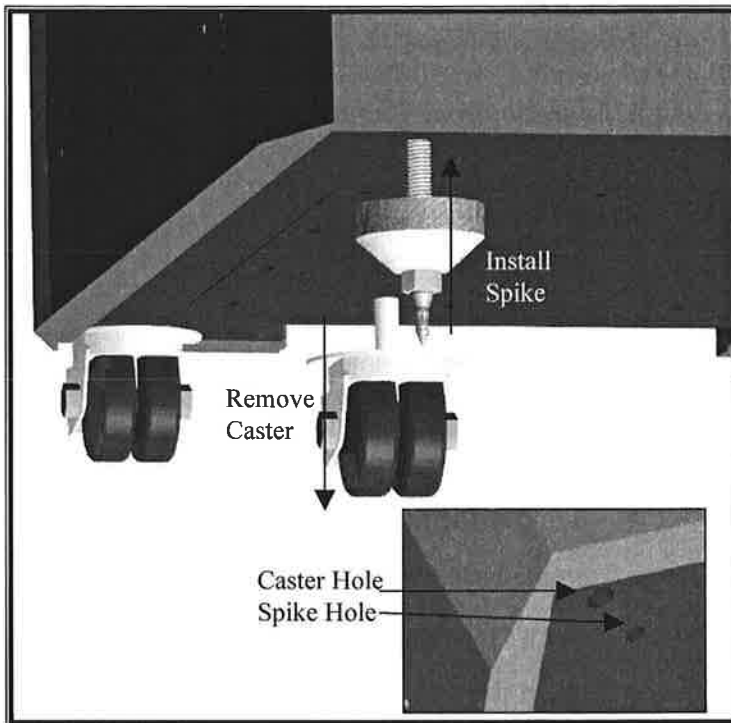

FIGURE 26 INSTALLING THE SPIKES
- Use the open-ended wrench to loosen the casters and insert the finished spike assembly. Screw in the spike assembly. Hand tighten only! Note: Be very careful NOT TO CROSS THREAD the spikes. The base of the X-1/Grand SLAMMs are made of "X" material and are prone to cross threading. Note: The spike will go into a different hole than the caster. (see Figure 26)